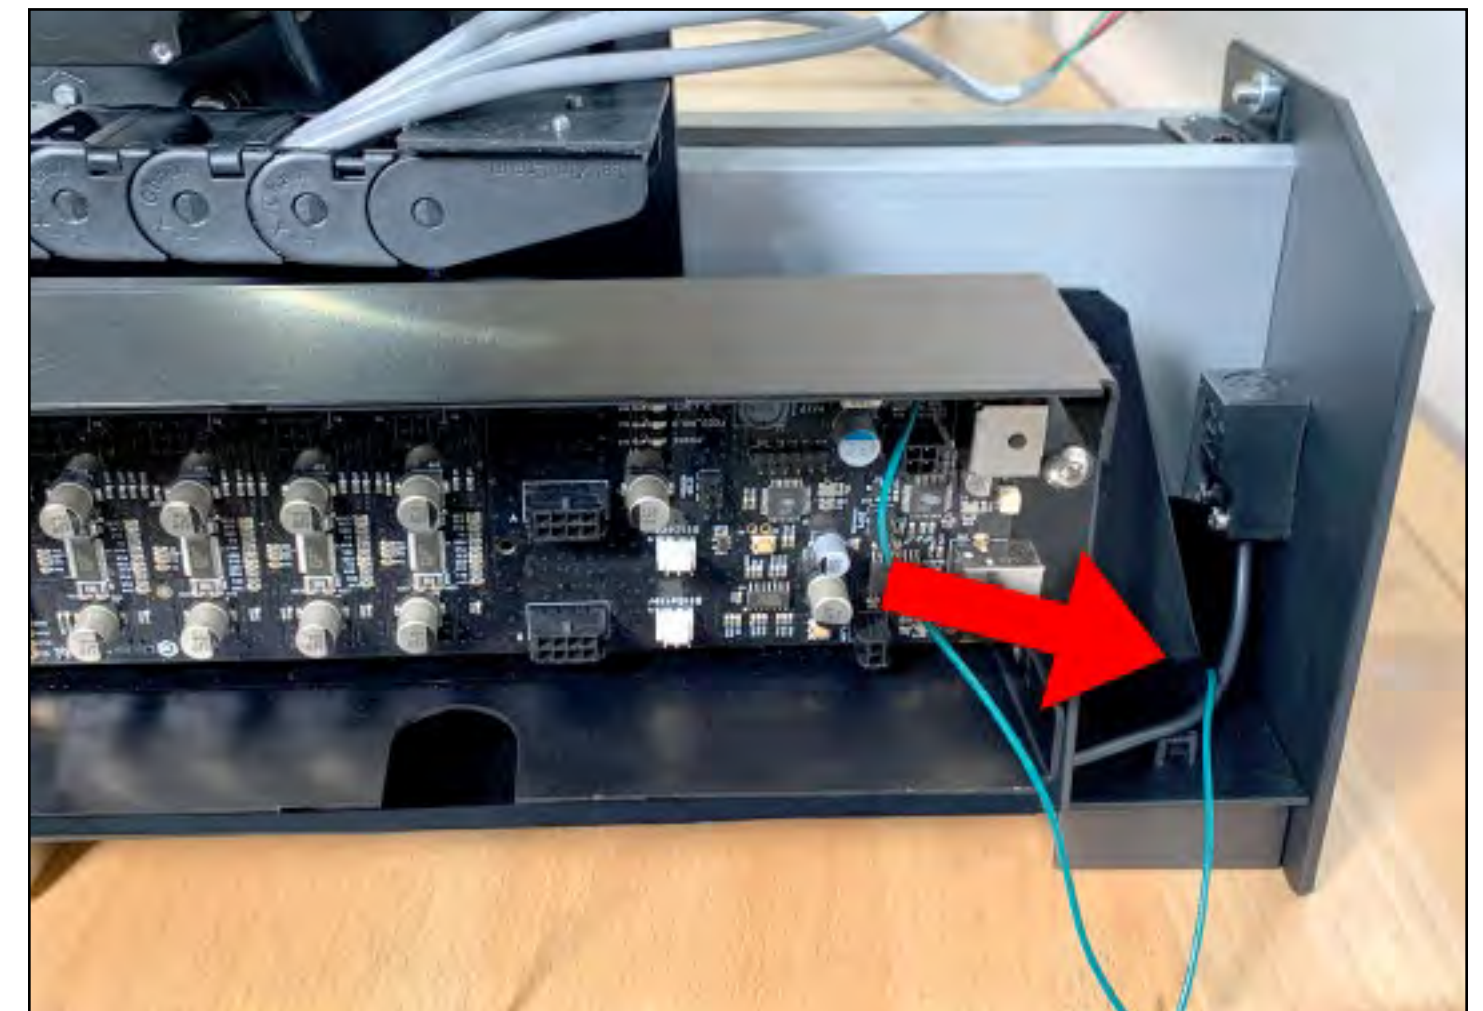

Figure 9-3
- a. Power and USB to the back. See **Fig. 9-3**.
2. Use a 4mm hex key and two (2) M5×6mm BHCS to secure the controller to the mount. Fully tighten.
2. Use a 4mm hex key and the M6×12mm BHCS to secure the back end of the controller mount and the grounding wire to the support panel. Fully tighten. See **Fig. 9-3**.